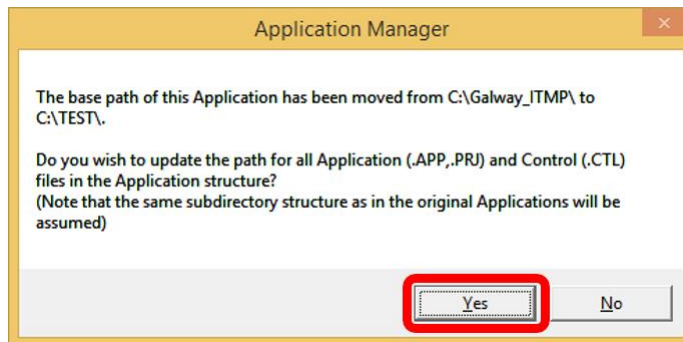

Figure 6.3 Cube prompt to update links
- 2) Open Cube and allow it to update all file paths. (Figure 6.3)
- 6) Open Cube and allow it to update all file paths. (Figure 6.3)